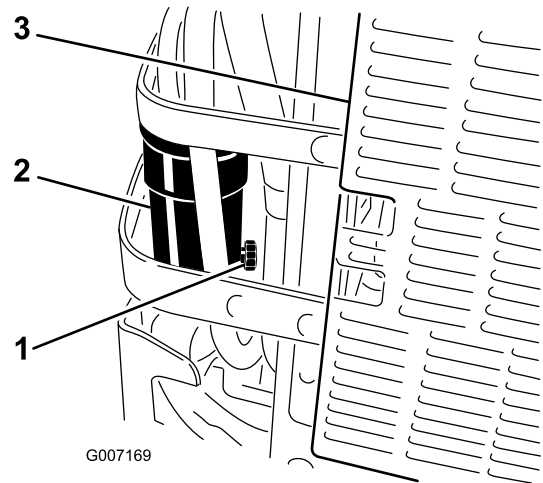

Figure 55
3. Place a drain pan below the water separator (Figure 55).
4. Open the drain valve on the water separator approximately 1 turn to allow water and other contaminants to drain (Figure 55).
5. Close the drain valve when only diesel fuel comes out (Figure 55).